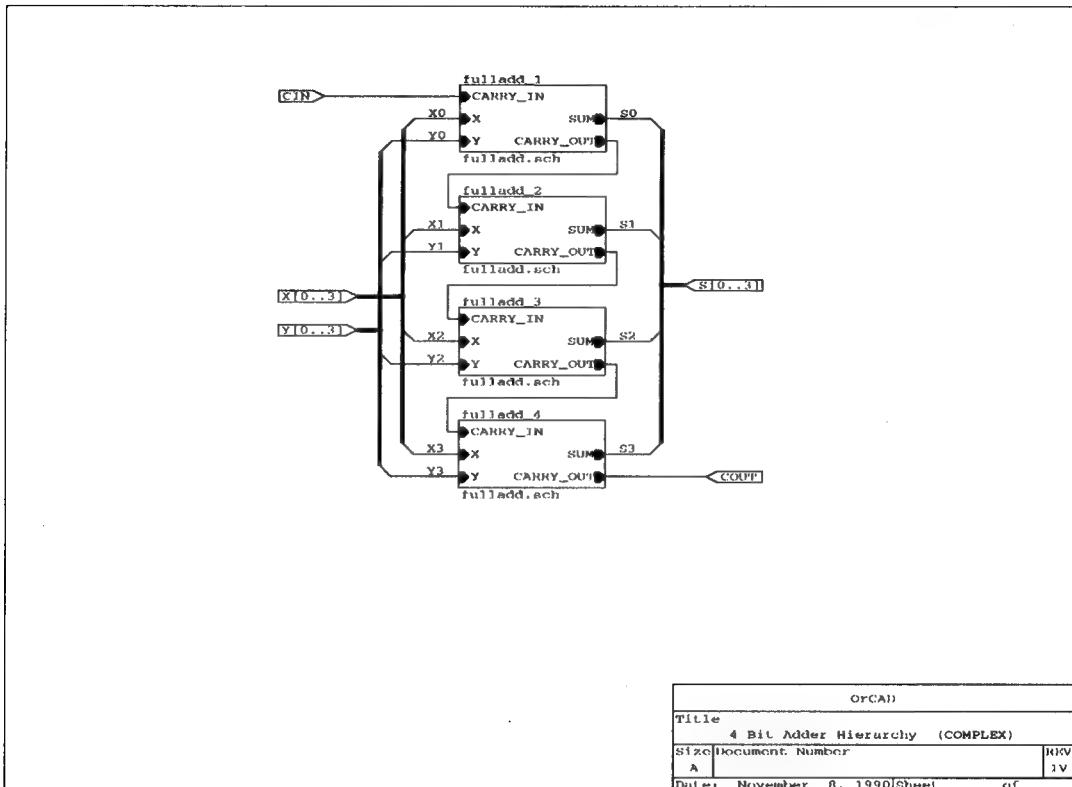

Figure 8-8. The root worksheet of the 4-bit adder design.
This section describes a three-sheet complex hierarchy. Complex hierarchies are very useful when designing common logic blocks that are repeated. Figure 8-8 shows the root worksheet for the 4-bit adder design.
7. Select Draft and then select Execute. The 4BIT root worksheet displays (figure 8-8).